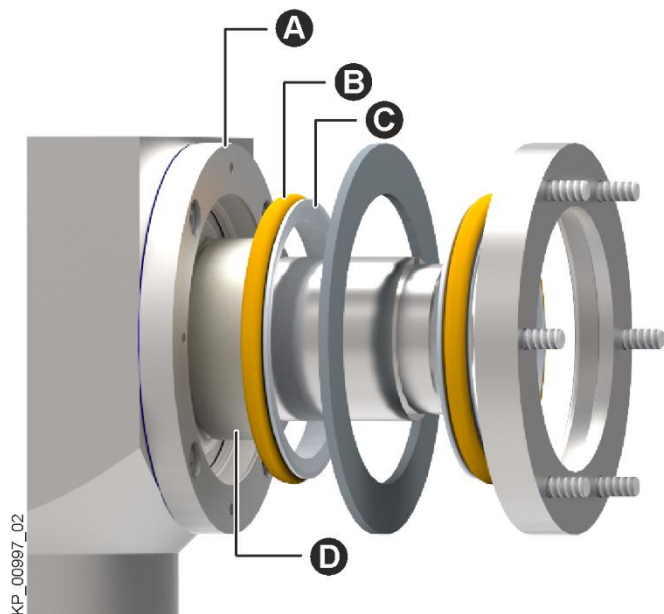

Fig. 53: O-ring and sliding ring
- Remove the O-ring (Fig. 53/B) and the sliding ring (Fig. 53/C) from the seal carrier (Fig. 53/A).
- Check the spacer ring (Fig. 53/E) for damage and replace it if necessary.